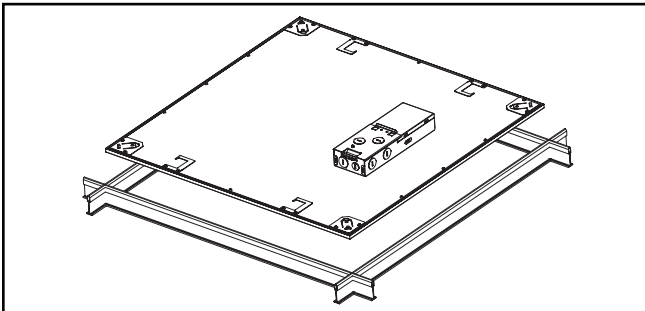

Figure 3.
5. Pass fixture through the grid at a 45 degree angle and lay fixture into the grid (Fig. 3).